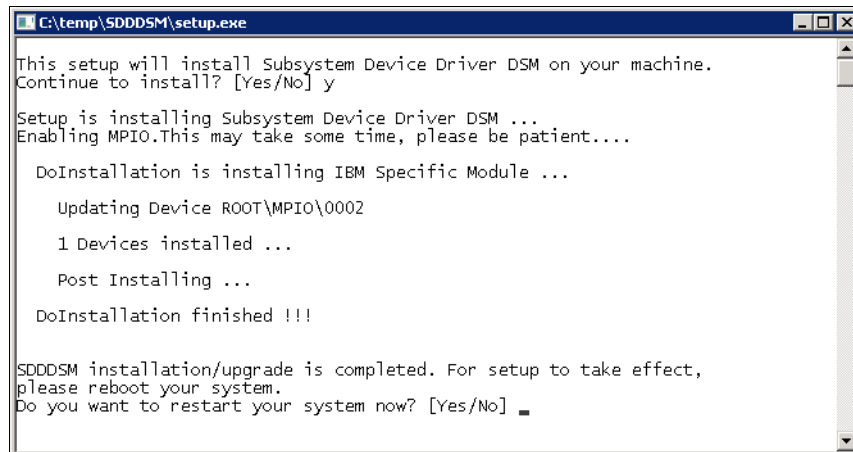

Figure 4-3 Answer yes to restart the host
3. After the setup completes, you are prompted to restart the system. Confirm this restart by entering yes and pressing Enter, as shown in Figure 4-3.